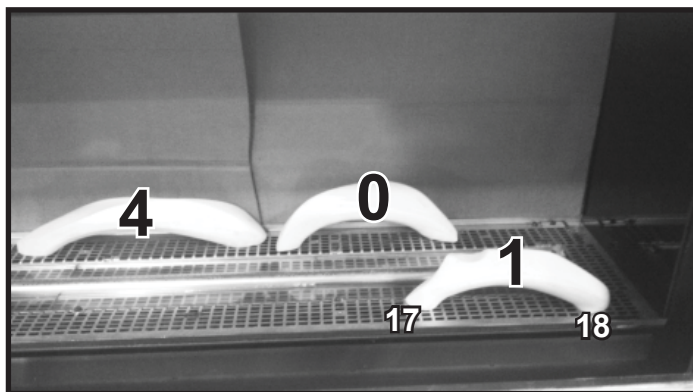

Figure 11. (SRV2310-751)
12. **(SRV2310-751):** Install Log #1 onto shoulder screws #17 and #18 by aligning the log placement holes with the shoulder screws. See Figure 11.